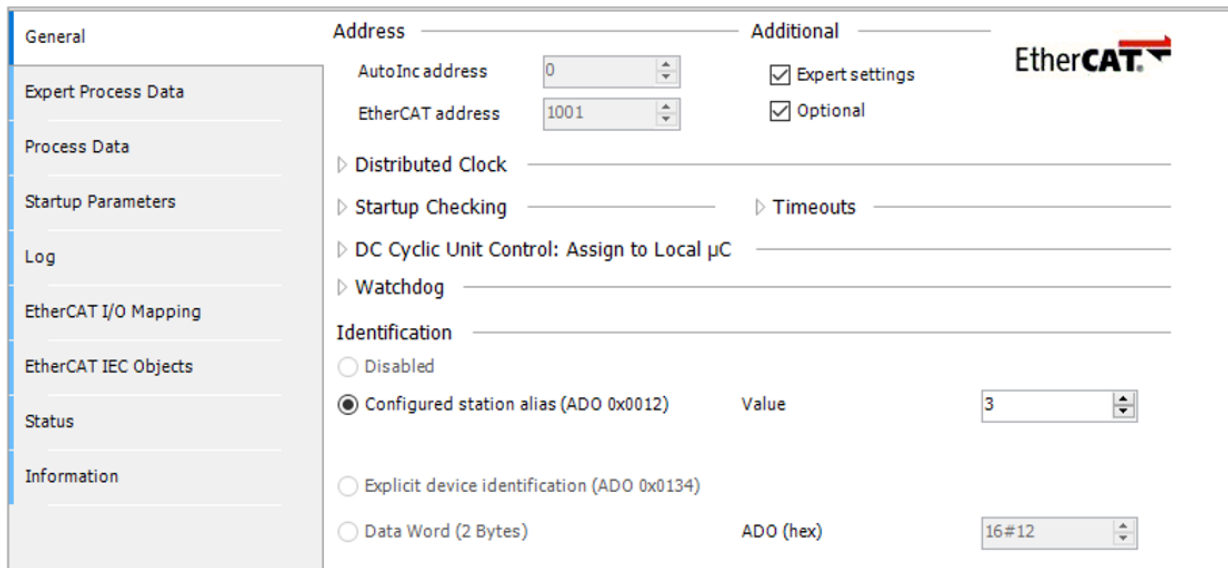

Figure 4.5: Enable the Optional field.
- Exit the **Online** mode, and in the **Additional** field, select **Optional**. In the **Configured station alias (ADO 0x0012)** field, as shown in Figure 4.5. Make sure the address is the same as the one written to the EEPROM memory earlier.